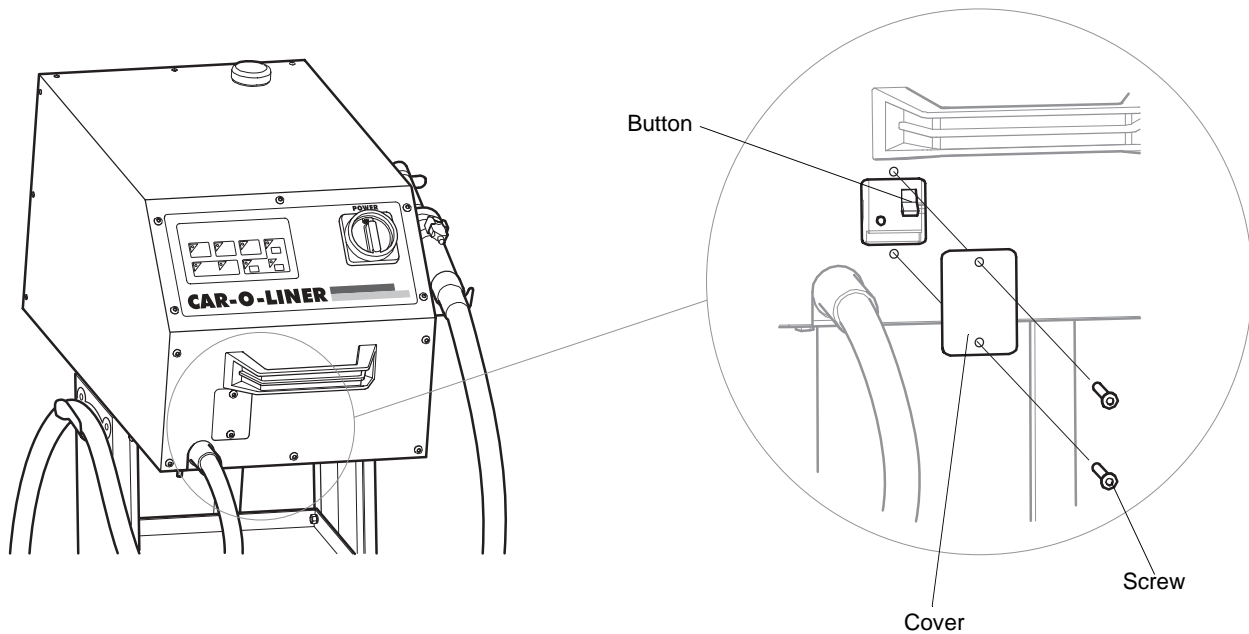

Figure 5.1 Checking the residual current breaker operator.
- 1 **Open the cover at the front of the heater by loosening the screws, see *Figure 5.1*.**